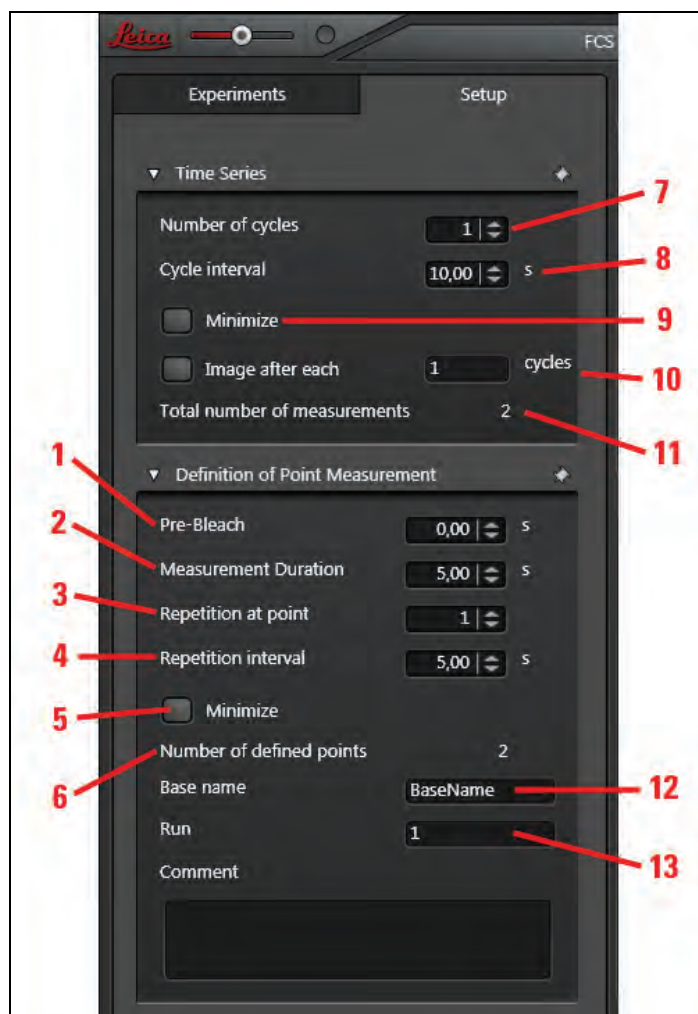

Figure 181: Definition of an FCS Time Series
- **Pre-bleach**: Enables you to define a time in which the laser is switched on before the measurement begins. This feature can be used to pre-bleach the specimen before the measurement (**Figure 181, item 1**).
- **Measurement duration**: Specifies the duration of an individual FCS measurement (**Figure 181, item 2**). The minimum measurement duration is 1 second; the maximum measurement duration is 10 minutes.
- **Repetition at point**: The entered number specifies how often the measurement at this point is repeated before the system moves on to the next point (**Figure 181, item 3**). The maximum number of repetitions is 1000.
- **Repetition interval**: Specifies the time between the beginning of one measurement and the following measurement at this point. The value cannot be smaller than the sum of measurement and pre-bleach time (**Figure 181, item 4**).
- **Minimize**: If the **Minimize** box is checked, repetitions will be carried out as fast as possible (**Figure 181, item 5**).
- **Number of defined points:** The user does not have access to this field. It serves to visualize the number of measuring points defined in the viewer (**Figure 181, item 6**).
- **Number of cycles:** A **Cycle** means that, in the sequence of their definition, the individual measuring points are processed exactly once in the image display with the number of repetitions specified in the **Definition of point measurements** dialog. The input field enables you to specify the repetitions to be carried out relative to a complete cycle (**Figure 181, item 7**). The maximum number of cycles is 1000.
- **Cycle interval:** Specifies the time between the beginning of one cycle and the next cycle (**Figure 181, item 8**). If the **Minimize** box is checked, processing cycles will be carried out as fast as possible (**Figure 181, item 9**).
- **Image after each ___ cycles:** If you enable check boxes and enter the number **1**, an image or stack is acquired with the current image acquisition settings after each cycle. If you enter the number **2**, an image or stack is acquired after every second cycle; if you enter **3**, after every third cycle, and so on. After processing all cycles, one last image or stack will be acquired (**Figure 181, item 10**).
- The user does not have access to the **Total number of measurements** field. It serves to visualize the number of FCS measurements carried out (**Figure 181, item 11**). This number is the product of **Number of defined points** times **Repetition at point** times **Number of cycles**.
You can specify the name of the FCS data file used in SymPhoTime in the **Setup** tab in the **Definition of point measurement** field (**Figure 181, item 12**).
Base name: Enables you to specify the base folder and file name used in SymPhoTime (**Figure 181, item 12**). If the user does not enter a name, **BaseName** will be automatically used.
Run: This is a suffix that is added to the file names transferred in SymPhoTime. In SymPhoTime, no two folders may have the same name. Therefore, the number given in the **Run** suffix is automatically increased by one whenever a measurement series is started. The **Run** suffix can be changed by the user (**Figure 181, item 13**).
Both the count rate and correlation curve give a first impression about the quality of the measurements. Images acquired automatically during the FCS measurement series (with **Image after each __ cycles, Figure 181**) can indicate movements of the specimen.